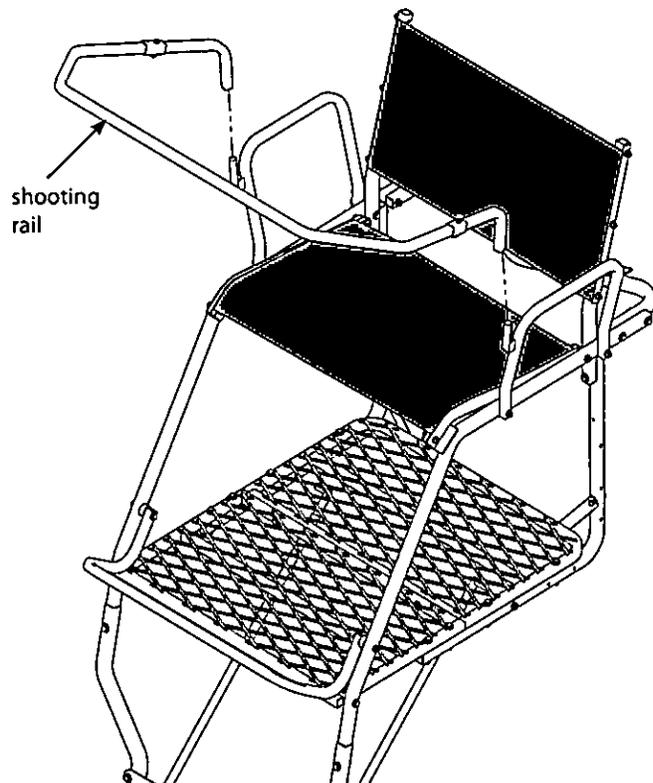

Figure 13
a. Attach the removable shooting rail by setting rail down over studs provided on armrests. **SEE FIGURE 13. Lubrication is recommended to prevent binding and noise.**
b. Attach the (2) provided 9" and (1) provided 47" camo foam pads to the armrests and shooting rail by wrapping around tubing and attaching Velcro together.